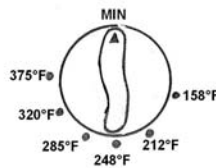

Fig. 3
- Select the desired temperature on the temperature setting dial (#8). Fig. 3